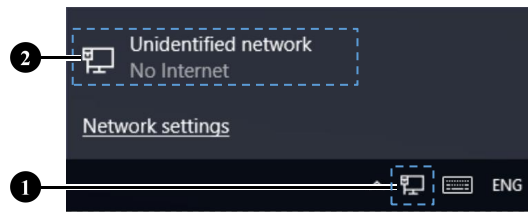

Figure 5-2 Network and Internet Settings
Step 1: Click the network icon ① in the taskbar of the device, and select "Network and Internet Settings" ② (Figure 5-2);